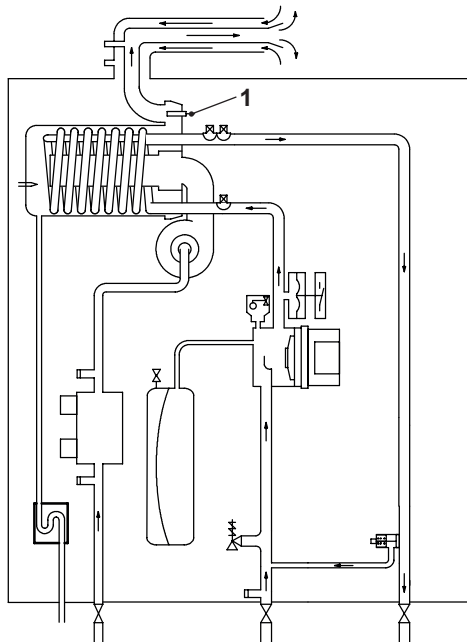
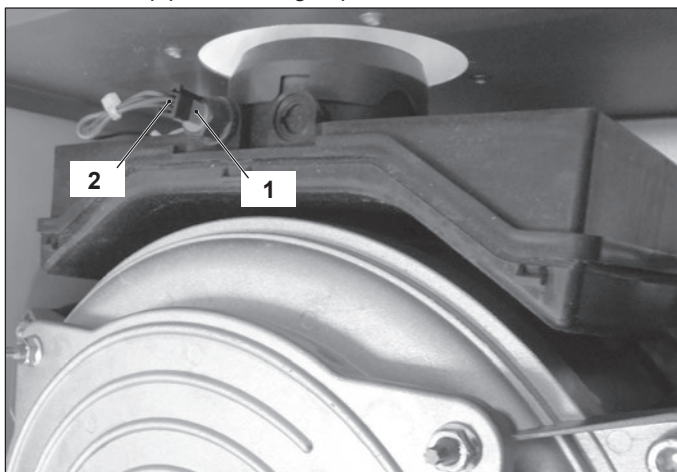

Figure 16.1
Figure 16.2
The Flue temperature probe NTC and Safety thermal fuse "1" in Figure 16.1 and Figure 16.2 senses the temperature of the combustion products that flow through the condensing heat exchanger.
A Flue temperature probe NTC and Safety thermal fuse "1" in Figure 16.1 and Figure 16.2 is also connected in series with the Flue temperature probe NTC and acts as a safety device in extreme case of incorrect operation of the Flue temperature control system.
- 2 Disconnect the connector "2" from the Flue temperature probe NTC and Safety thermal fuse by pressing the plastic hook placed on the side of the connector (Figure 16.2).
- 3 Unscrew and remove the Flue temperature probe NTC and Safety thermal fuse "1" (Figure 16.2) from the condensing heat exchanger.